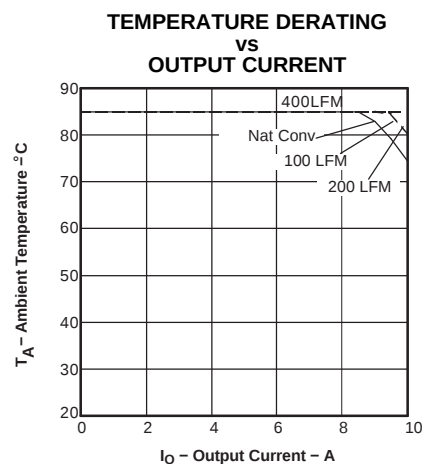

Figure 4.
- (2) SOA graphs represent the conditions at which internal components are at or below the manufacturer's maximum operating temperatures. Derating limits apply to modules soldered directly to a 4 in. × 4 in., double-sided PCB with 1 oz copper. For surface mount products (AS and AZ suffix), multiple vias (plated through holes) are required to add thermal paths around the power pins. Please refer to the mechanical specification for more information. Applies to Figure 4.
- (3) The peak-to-peak output ripple voltage is measure with an external 10 µF ceramic capacitor on the output.